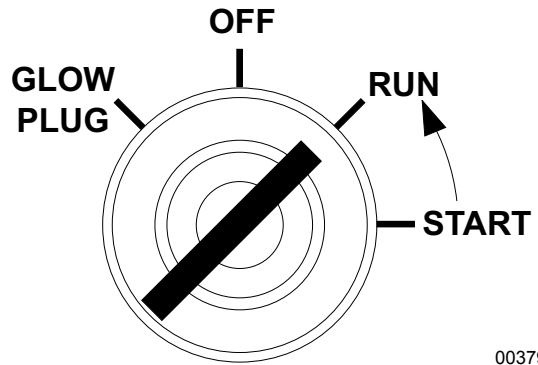

Figure 3-7. Release Key
- See Figure 3-7. Release the key, it will move to the RUN position.